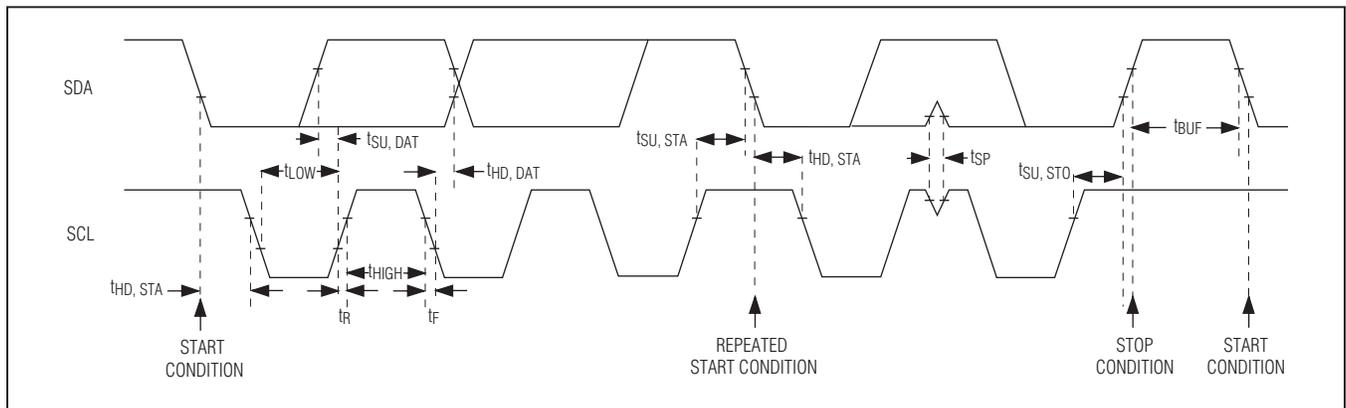

Figure 3. 2-Wire Interface Timing Diagram
The devices feature an I²C /SMBus™-compatible, 2-wire serial interface consisting of a serial data line (SDA) and a serial clock line (SCL). SDA and SCL facilitate communication between the devices and the master at clock rates up to 400kHz. Figure 3 shows the 2-wire interface timing diagram. The master generates SCL and initiates data transfer on the bus. A master device writes data to the devices by transmitting the proper slave address followed by the register address and then the data word. Each transmit sequence is framed by a START (S) or Repeated START (Sr) condition and a STOP (P) condition. Each word transmitted to the devices is 8 bits long and is followed by an acknowledge clock pulse. A master reading data from the IC transmits the proper slave address followed by a series of nine SCL